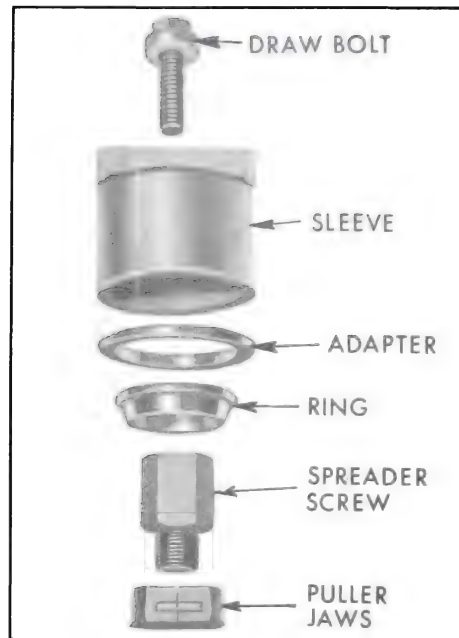

Figure 6-13—Proper Position of J-6552 Parts
8. If a differential bearing is to be replaced, pull bearing outer race from case with Remover J-6552 using the following procedure: (See Figures 6-13 and 6-14).